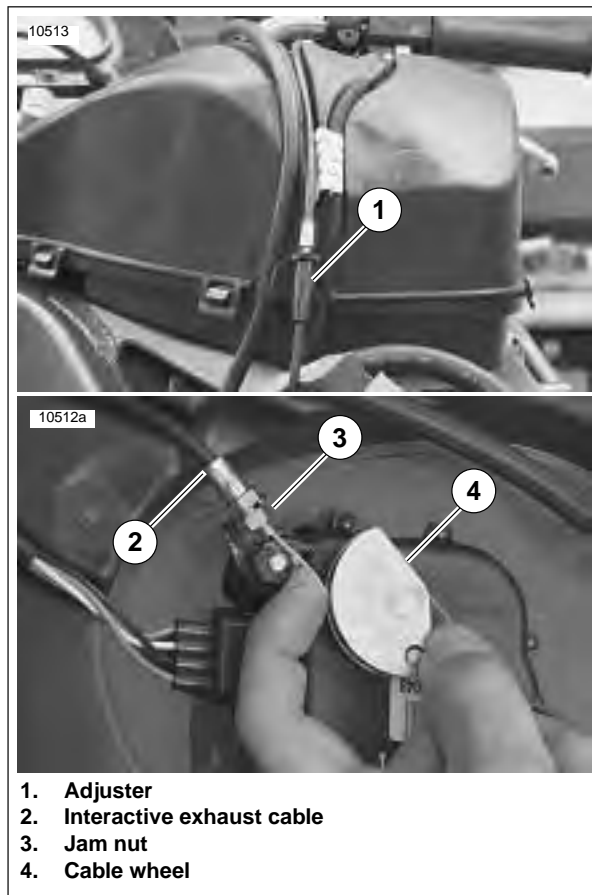

Figure 1-47. Interactive Exhaust Cable (Typical)
3. See Figure 1-47. Loosen jam nut (3).
4. Remove cable (2) from bracket (3) and cable wheel (4).
- a. See Figure 1-47. Move cable with your fingers from side to side. There should be no more than 1/8 in. (3.2 mm) side play in cable in either direction with 1/4 in. (6.4 mm) maximum overall side play.
- b. Adjust cable as needed using cable adjuster (1).